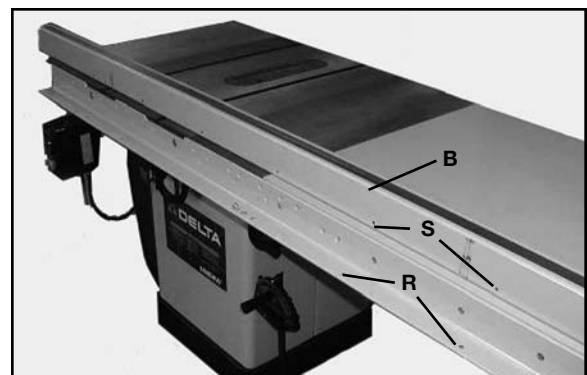

FIG. 14
11. Lay the guide tube (B) Fig. 14, on the saw table as shown, and line up the threaded holes (S) on the bottom of guide tube with the through holes (T) on the front rail. **NOTE: The guide tube should extend past the rail 6" on each end.**
12. Position the guide tube (B) on the front rail and fasten the guide tube to the rail using the 1/4-20 x 1/2" long hex head screws and lock washers. NOTE: Where there are two holes 2-1/2" apart, use only one of the two holes.